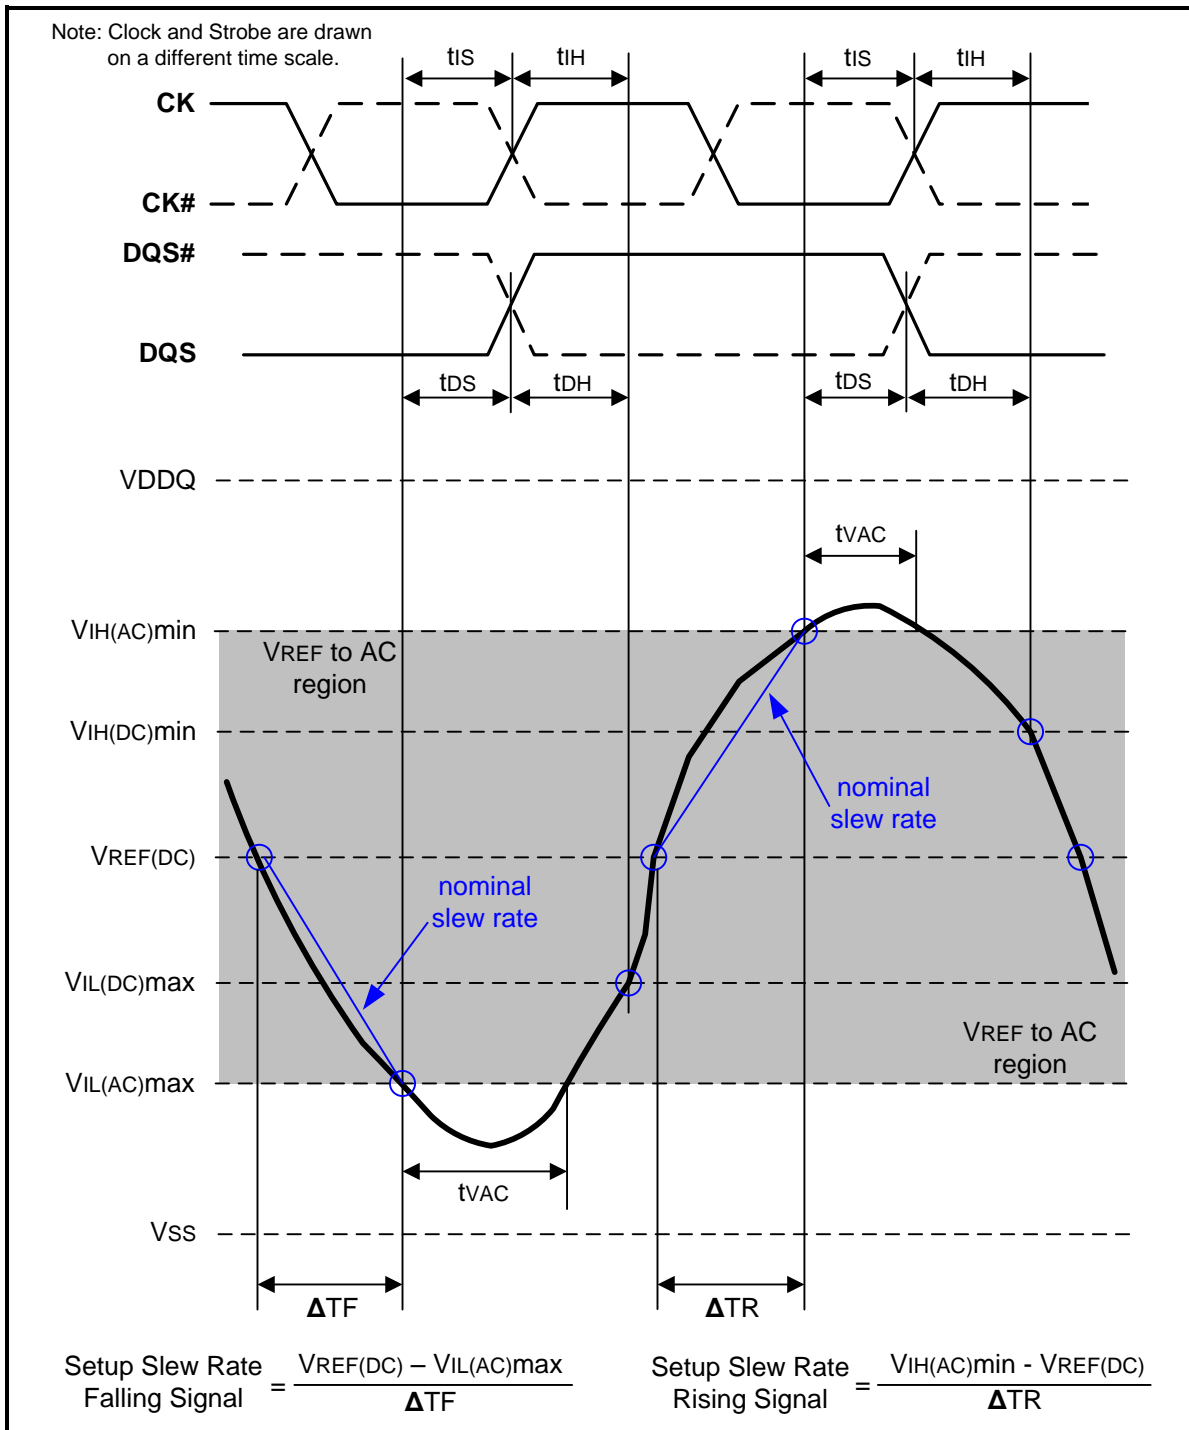

Figure 107 – Illustration of nominal slew rate and tvac for setup time tDS (for DQ with respect to strobe) and tIS (for ADD/CMD with respect to clock)
Setup (t_{IS}) nominal slew rate for a rising signal is defined as the slew rate between the last crossing of $V_{REF(DC)}$ and the first crossing of $V_{IH(AC)min}$. Setup (t_{IS}) nominal slew rate for a falling signal is defined as the slew rate between the last crossing of $V_{REF(DC)}$ and the first crossing of $V_{IL(AC)max}$. If the actual signal is always earlier than the nominal slew rate line between shaded 'VREF(DC) to AC region', use nominal slew rate for derating value (see Figure 107). If the actual signal is later than the nominal slew rate line anywhere between shaded 'VREF(DC) to AC region', the slew rate of a tangent line to the actual signal from the AC level to $V_{REF(DC)}$ level is used for derating value (see Figure 109).
Setup (tDS) nominal slew rate for a rising signal is defined as the slew rate between the last crossing of VREF(DC) and the first crossing of VIH(AC)min. Setup (tDS) nominal slew rate for a falling signal is defined as the slew rate between the last crossing of VREF(DC) and the first crossing of VIL(AC)max (see Figure 107). If the actual signal is always earlier than the nominal slew rate line between shaded 'VREF(DC) to AC region', use nominal slew rate for derating value. If the actual signal is later than the nominal slew rate line anywhere between shaded 'VREF(DC) to AC region', the slew rate of a tangent line to the actual signal from the AC level to VREF(DC) level is used for derating value (see Figure 109).